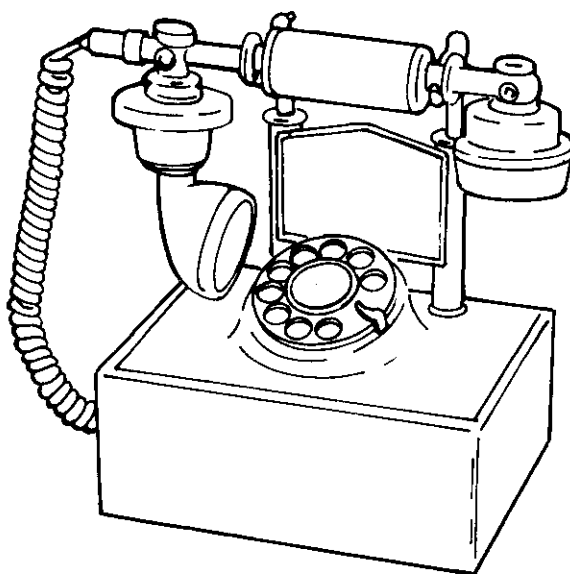

Figure 1. Cradlephone.
2.02 The Cradlephone (Figure 1) measures approximately 9-1/2 inches high, 8-1/2 inches wide and 6-3/4 inches deep. The seven models are approximately the same size and differ only in the trim and color. The models are as follows: